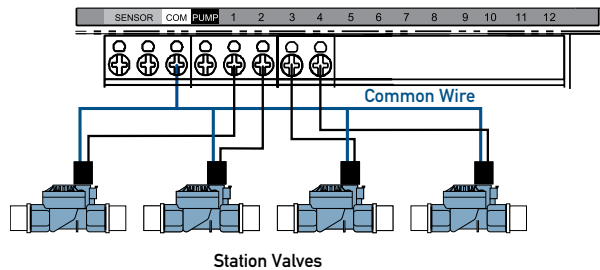

Figure 14: Connecting Sprinkler Wire
- Connect each sprinkler wire (excluding the "common" wire) to a separate station terminal (numbered above each terminal screw) by inserting the bare wire fully into the hole under each terminal screw. [See Figure 14]